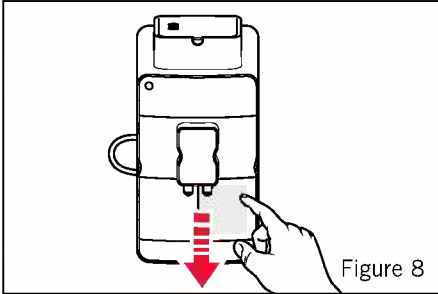

Figure 8
- Press the water tank and pull it out of the coffee machine. See Figure 8.